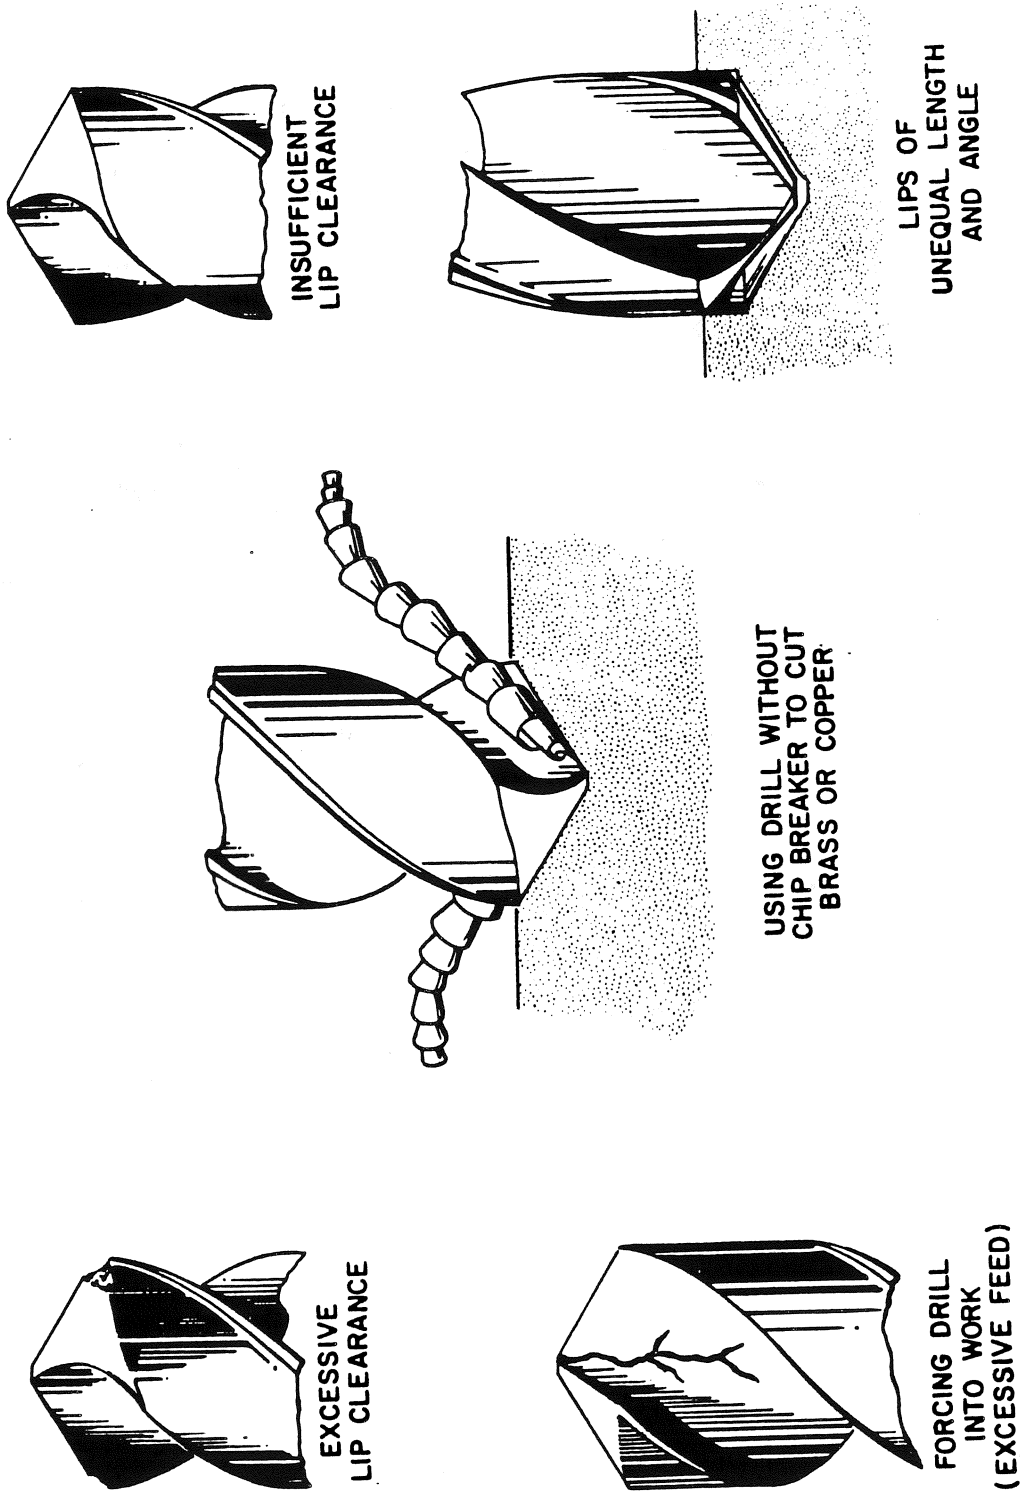

Figure 10.8. Common Drill Troubles and Causes
6. Common drill troubles and causes. (See Figure 10.8.)